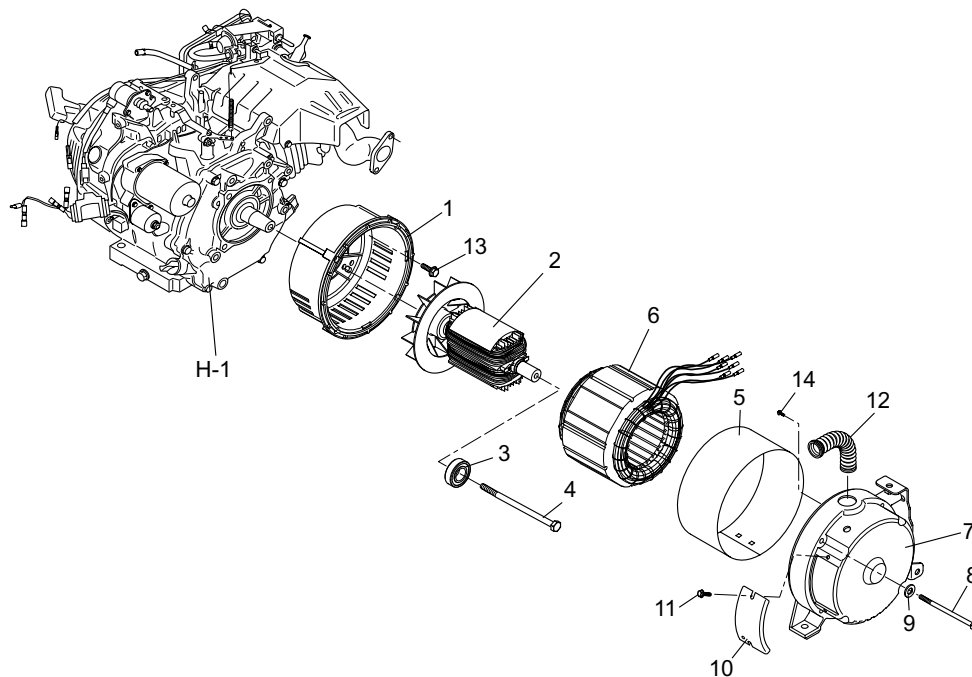

Figure 28: Replacement of Stator
- (4) Remove the flexible tube (12), (Figure 28) from the rear cover (7). Pull the wires out of the access opening in the rear cover. Tag and disconnect the wires.
- (9) Use a plastic, rubber, or other soft-faced hammer to loosen the stator. Tap upward on the side of the laminations. Tap upward and alternate tapping the near side and far side of the stator until loosened enough to remove by hand.
- (10) Put the removed stator away from the work area.
- (11) Position the replacement stator (6) with the wires as shown in Figure 28. Put stator (6) over rotor (2) and against the front cover (1).
- (12) Install stator cover (5) evenly over the stator.
- (13) Align the bore in rear cover (7) with the rotor bearing (3). Position the rear cover (7) with the hole for flexible tube (12) aligned with the stator wires.
- (14) Route the stator wires through the access hole in the rear cover (7).
- (15) Slip the flexible tube (12) over the wires. Put the flexible tube (12) in the wire access hole making sure the groove in the tube is seated in the lip of the wire access hole.
- (16) Install cover bolts (8) and washer (9). Tighten bolts (8) in small increments and in an alternating pattern. Tighten the bolts so the stator cover is pulled down evenly against the relief at the edge of the front cover (1) and rear cover (7).
- (17) Make sure the thin stator cover is seated all 360 degrees in the relief on both covers.
- (18) Tighten fasteners to the torque values shown in Table 10.
- (1) The generator stator (6), (Figure 28) must be removed before the rotor (2) can be removed. Refer to **Replacement of Stator** for stator removal instructions.
- The rotor (2), (Figure 28) at this point is free to rotate and must be kept from rotating to enable removal of the through bolt (4).
- (2) Restrain the rotor to keep it from rotating.
- (3) Put a box-end wrench on the hex of the through bolt (4).
- (4) Using a plastic, rubber, or other soft-faced hammer, strike the side of the wrench using sharp blows to loosen the through bolt (4).
- (5) When the through bolt (4) is loosened, it can easily be removed.